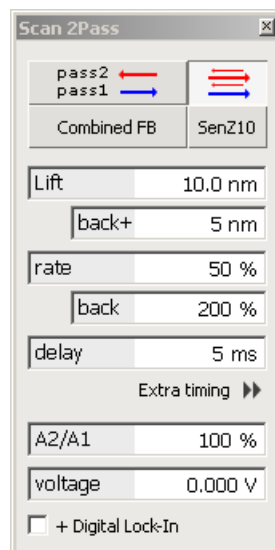

Figure 4.3.1 The 2Pass Scan panel for using two-pass techniques.
- Select **2Pass Scan** in the list of the scanning modes to switch the instrument to the two-pass MFM/EFM technique. The MFM/EFM control panel appears (fig. 4.3.1):